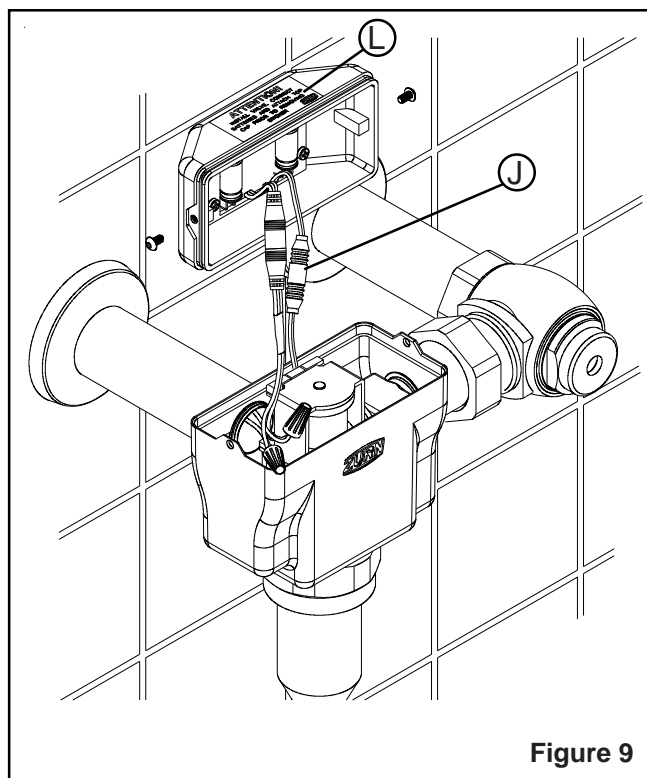

Figure 9
Electronics Reset Procedure: Remove valve cover. Disconnect solenoid wires ((J) Figure 9). Disconnect one wire nut connection to disrupt power to the valve. Place Magic magnet on top cover as if changing activation distance (See Appendix A). Reconnect solenoid wire connector. Place valve cover back on valve housing, carefully tuck wires into housing. Secure cover with two screws provided. Reconnect power and check for sensor function.